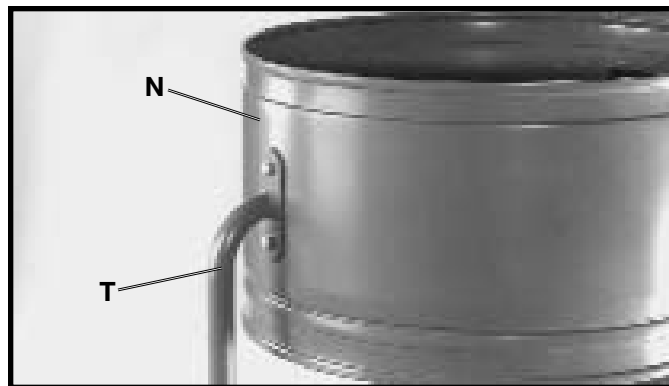

Fig. 18
11. Align two mounting holes in the top of drum support arm (T) Fig. 18, with two pre-drilled holes in drum (N) and fasten drum support arm (T) to drum (N). Place a lockwasher then a flat washer onto the hex head screw, insert the hex head screw through the hole in upper drum support and drum and thread a hex nut onto the hex head screw. **NOTE:** Do not completely tighten mounting hardware at this time.